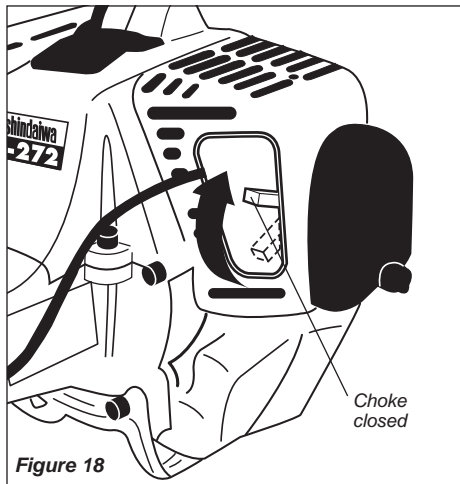

Figure 18
4. Set the choke lever to the CLOSED position if engine is cold. See Figure 18.